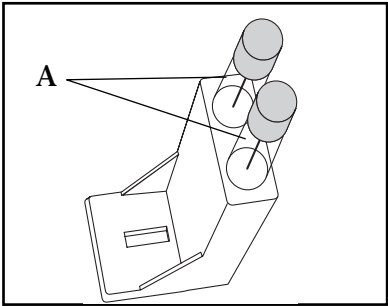

Figure 2.2
- 3. Be sure the instrument’s fuses (A) are correct for the voltage selected. (Figure 2.2) Fuses are as follows: